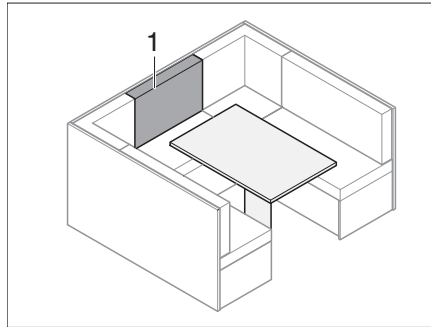

Fig. 172 Prior to conversion
- Lay the back cushion (Fig. 172,1) before the additional cushion on the table.